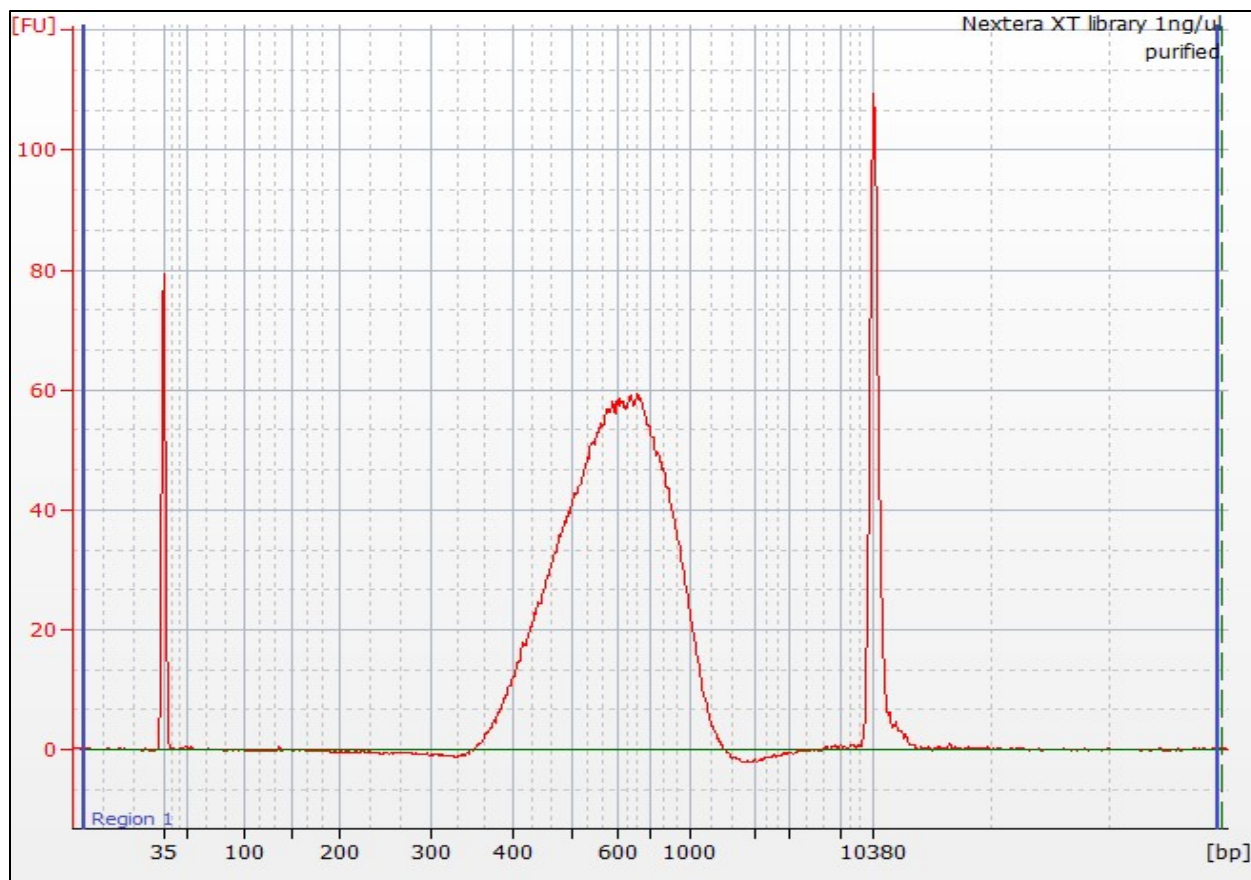

Figure 16. Typical Bioanalyzer trace for purified Nextera XT NGS library that has been normalized to 1 ng/ μl .
29. Use the Bioanalyzer results to determine library quality (see Figure 16, below, for an example of a typical Bioanalyzer profile for an NGS library that has been successfully purified and size selected).